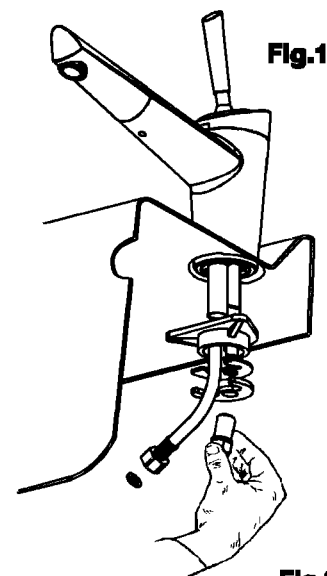

Fig.1
- ◆ Insert the reinforcement plate (18) (optional), the shaped gasket (19-a) and the flange (19-b) on the threaded rod.
- ◆ Tighten with the nut (20) (Fig.1)